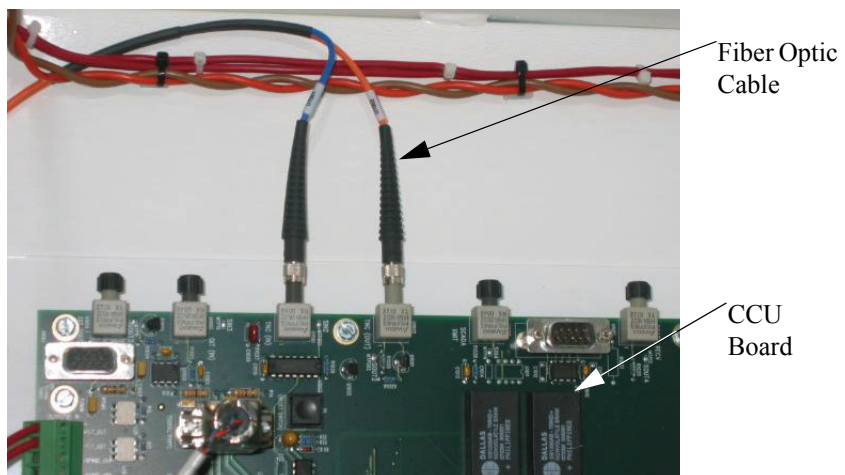

Figure 3 CCU Board Cable Connections
7. Connect the blue cable (U1001) to the U1001 connector on the CCU board. See Figure 3.